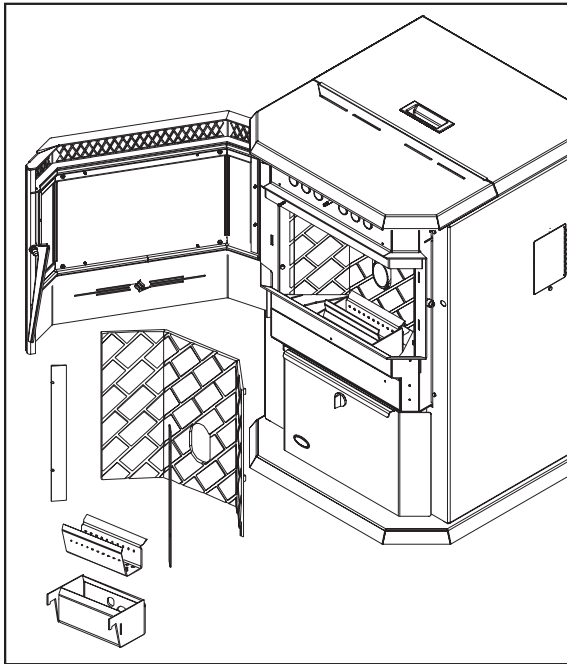

Figure 12: Firebox Components Removal.
**Removal of the firebox backing for bi-annual cleaning (refer to Figure 12):**
- c) Loosen (do not remove) the four (4) screws that hold the brick liner retainers in place. Remove side brick liners by sliding them from under the screwheads.
- b) Place the two (2) side panels back into the firebox, secure the two (2) retainers and lock down by tightening the two (2) screws on each side.